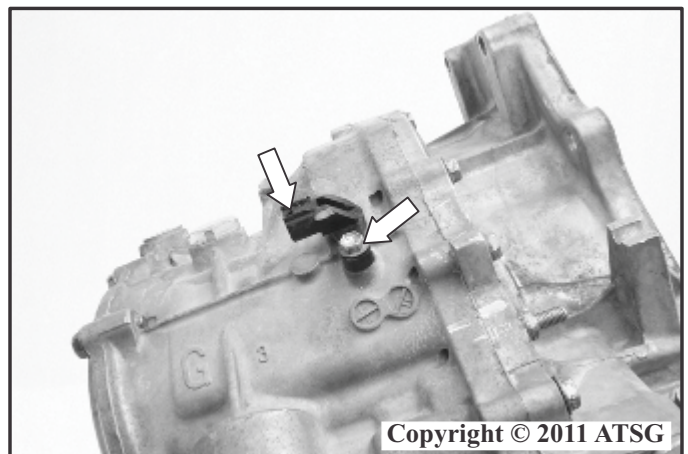

Figure 22
10. Remove the input speed sensor bolt then carefully remove the input speed sensor with a twisting motion as shown in Figure 22.